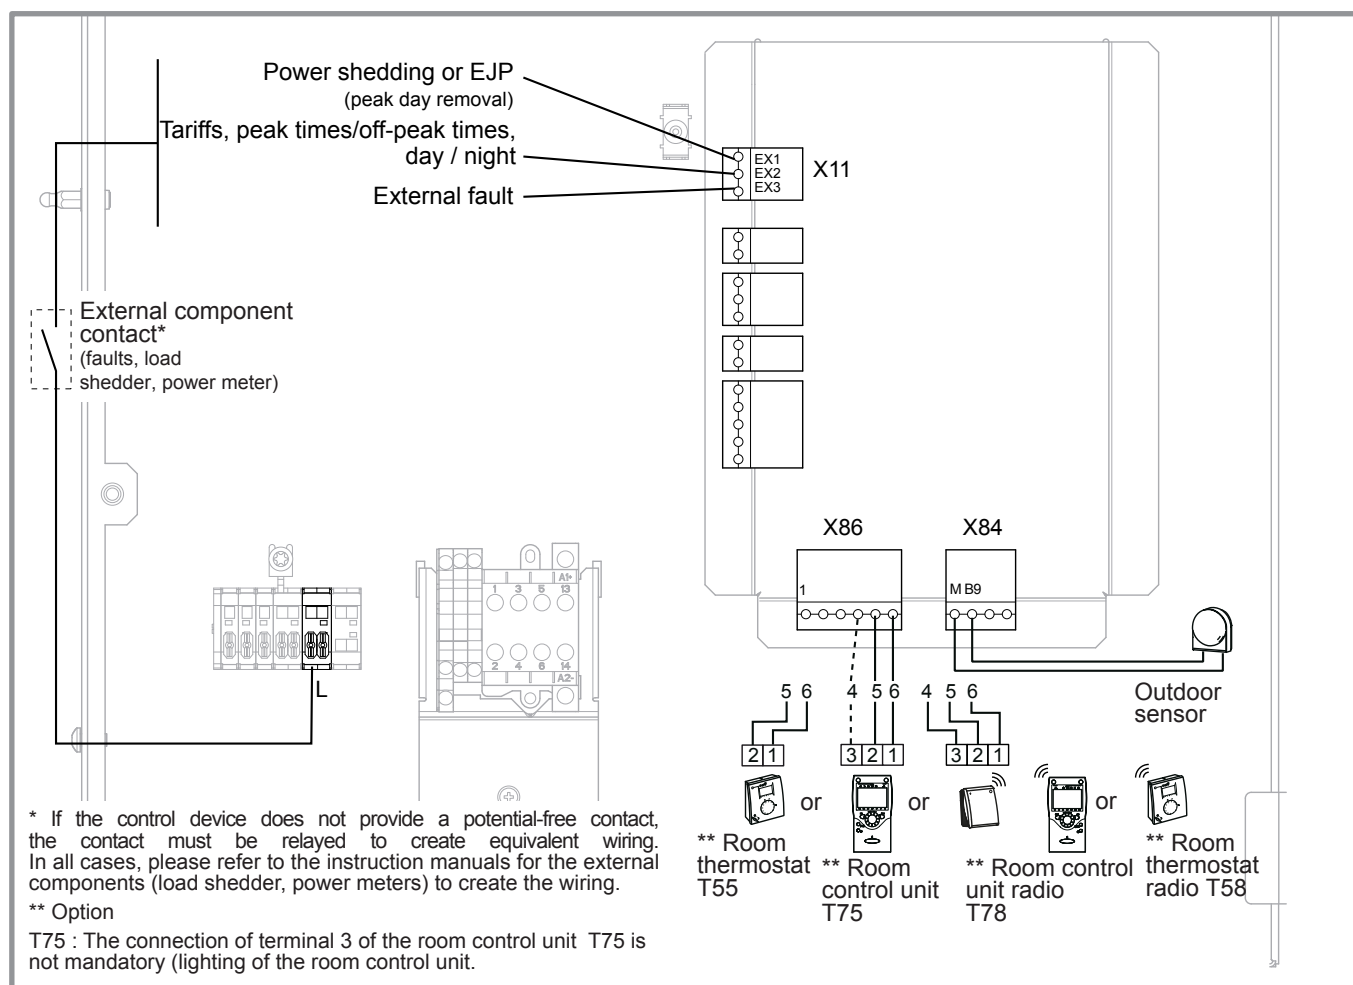

figure 41 - Connections to the heat pump regulator (accessories and options)
- Make the connections in accordance with the diagram figure 41.